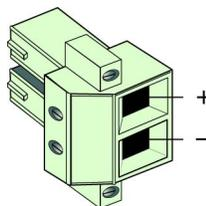

Figure 2-4. DC Power Connector, on Side
- a Turn the DC power connector (the DC power plug) on its side, with the screwheads facing your left and with the prongs pointing away from you (as shown in Figure 2-4).